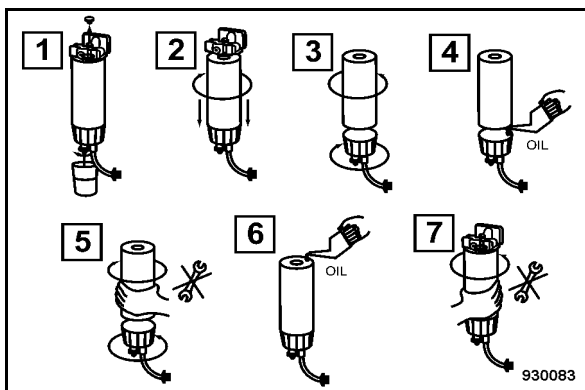

Fig. 159
- Tighten the cable on the water separator (Fig. 159).
- (1) Loosen the bleeding screw and drain off fuel from the bleeding screw.
- (2) Loosen and unscrew the fuel pre-filter cartridge using an appropriate filter wrench.
- (3) Unscrew the water separator from the filter cartridge.
- (4) Apply a thin coat of oil to the rubber seal of the water separator.
- (5) Turn the water separator on by hand, until the seal contacts, then tighten hand-tight.
- (6) Apply a thin coat of oil to the rubber seal of the filter element (5).
- (7) Turn the filter cartridge on by hand, until the seal contacts, then tighten hand-tight.